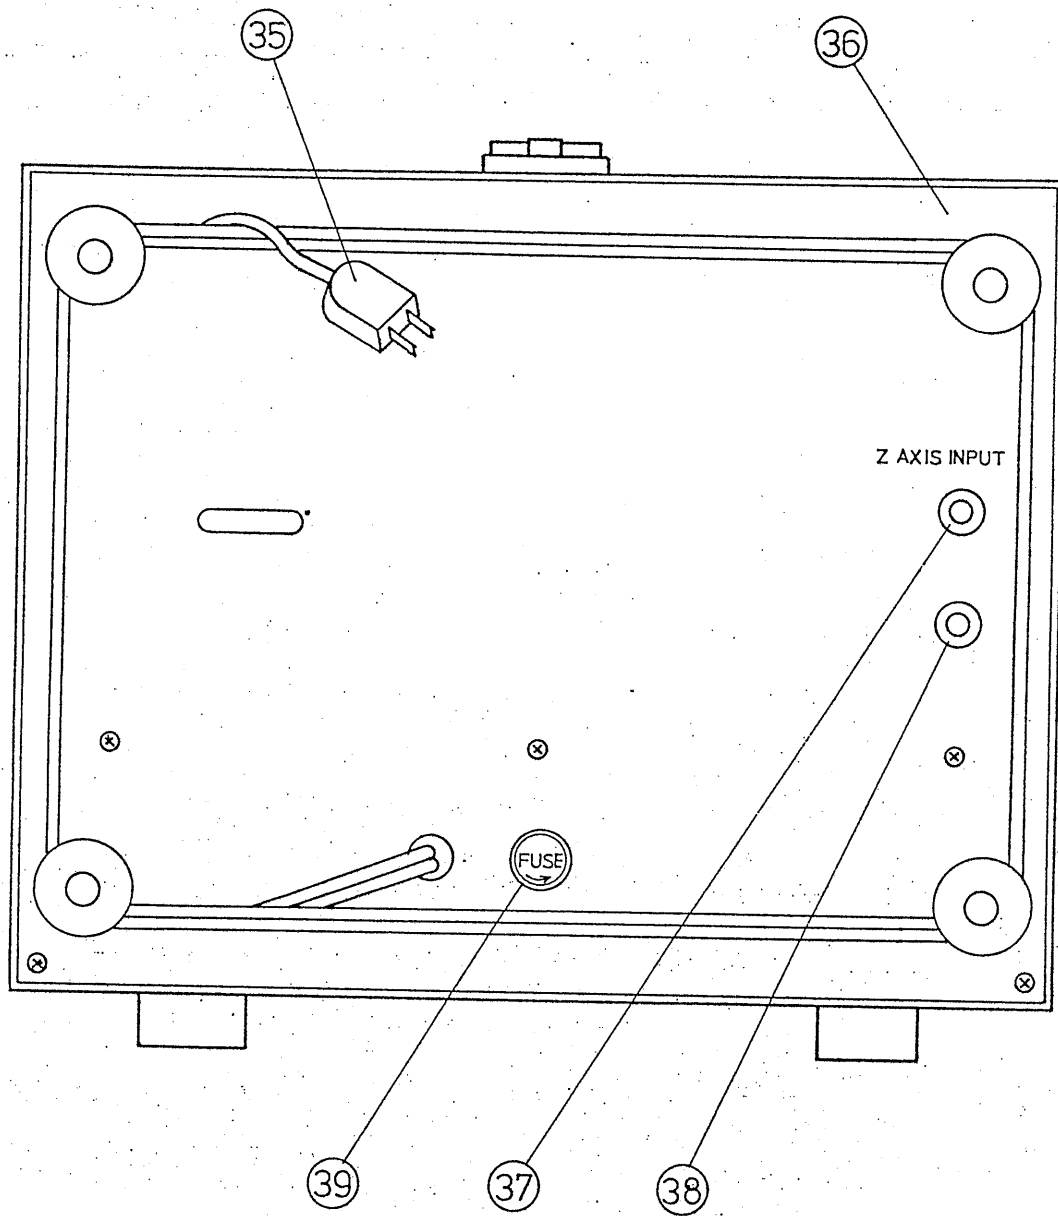

Fig. 2
3.2 Explanation of rear panel (Refer to Fig. 2)
This function is used for brightness control by external signal or indicating marker signals by intensity modulation. Remove the short bar of the external intensity modulation terminal Z AXIS INPUT (37) (Refer to Fig. 2), and connect a signal for intensity modulation between the terminal (37) and the GND terminal (38).